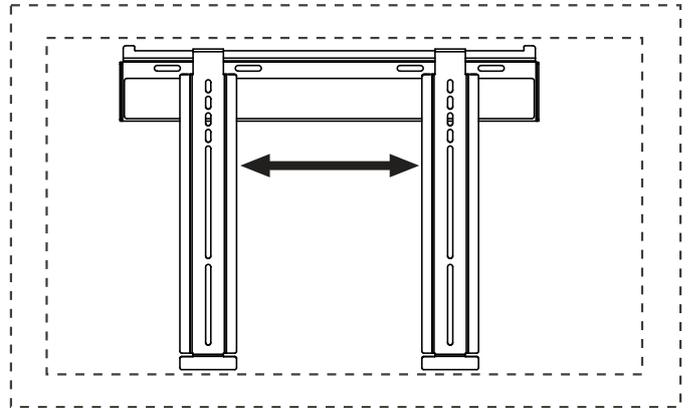

fig. 3.2
**3** Guide hooks of adapter brackets (**B**) onto flange of wall plate (**A**). Then slowly swing screen toward wall as shown in fig. 3.1. Gently press on screen to ensure velcro strips are engaged as shown in detail 1. To horizontally adjust screen, swing screen away from mount to disengage velcro, and slide screen along wall plate to desired position as shown in fig 3.2. Then slowly swing screen toward wall to re-engage velcro. To remove screen from mount, swing screen away from mount, and lift screen off of mount.